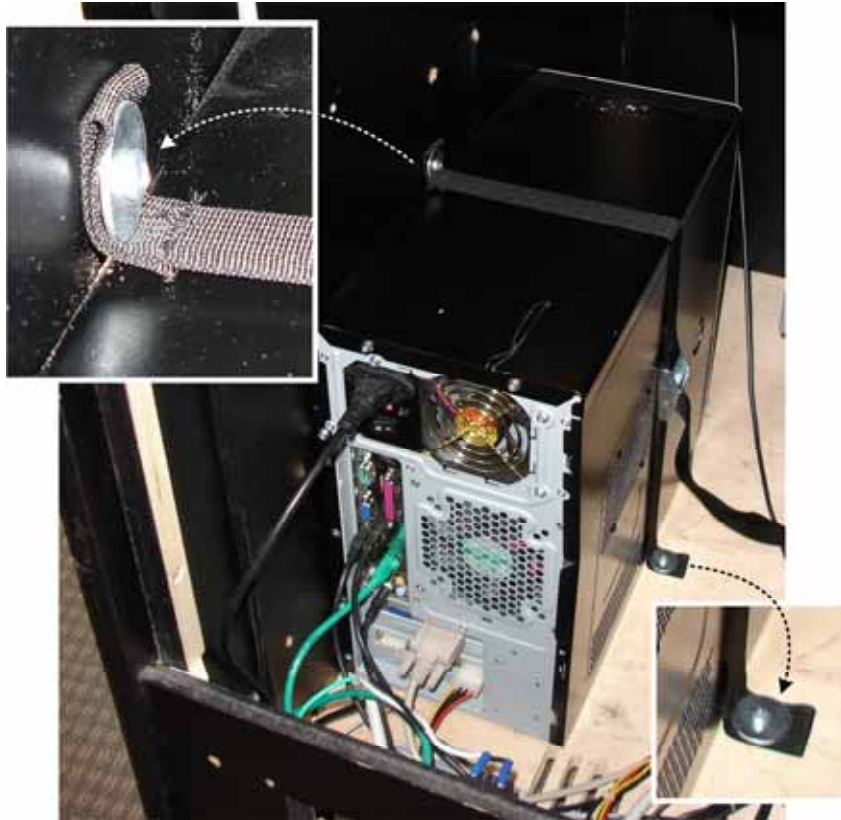

Figure 8. Securing the Computer
3. Refer to Figure 8 for an example of how to secure the computer with the mounting strap. GLOBAL VR recommends using two (2) #10 x 3/4" wood screws with fender washers to secure the ends of the strap as close as possible to the top and side of the computer. Make sure the two parts of the strap are lined up so they will buckle near the center of the computer. Buckle and tighten the strap.